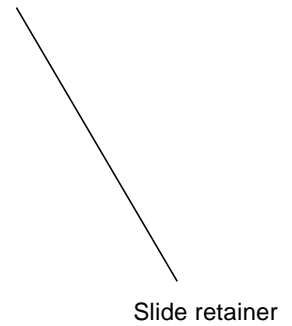

FIGURE B-7 Using the Slide Retainer to Hold the Corner of the PCI Card in Place
3. Push the slide retainer forward to hold the corner of the PCI card in place (see FIGURE B-7).